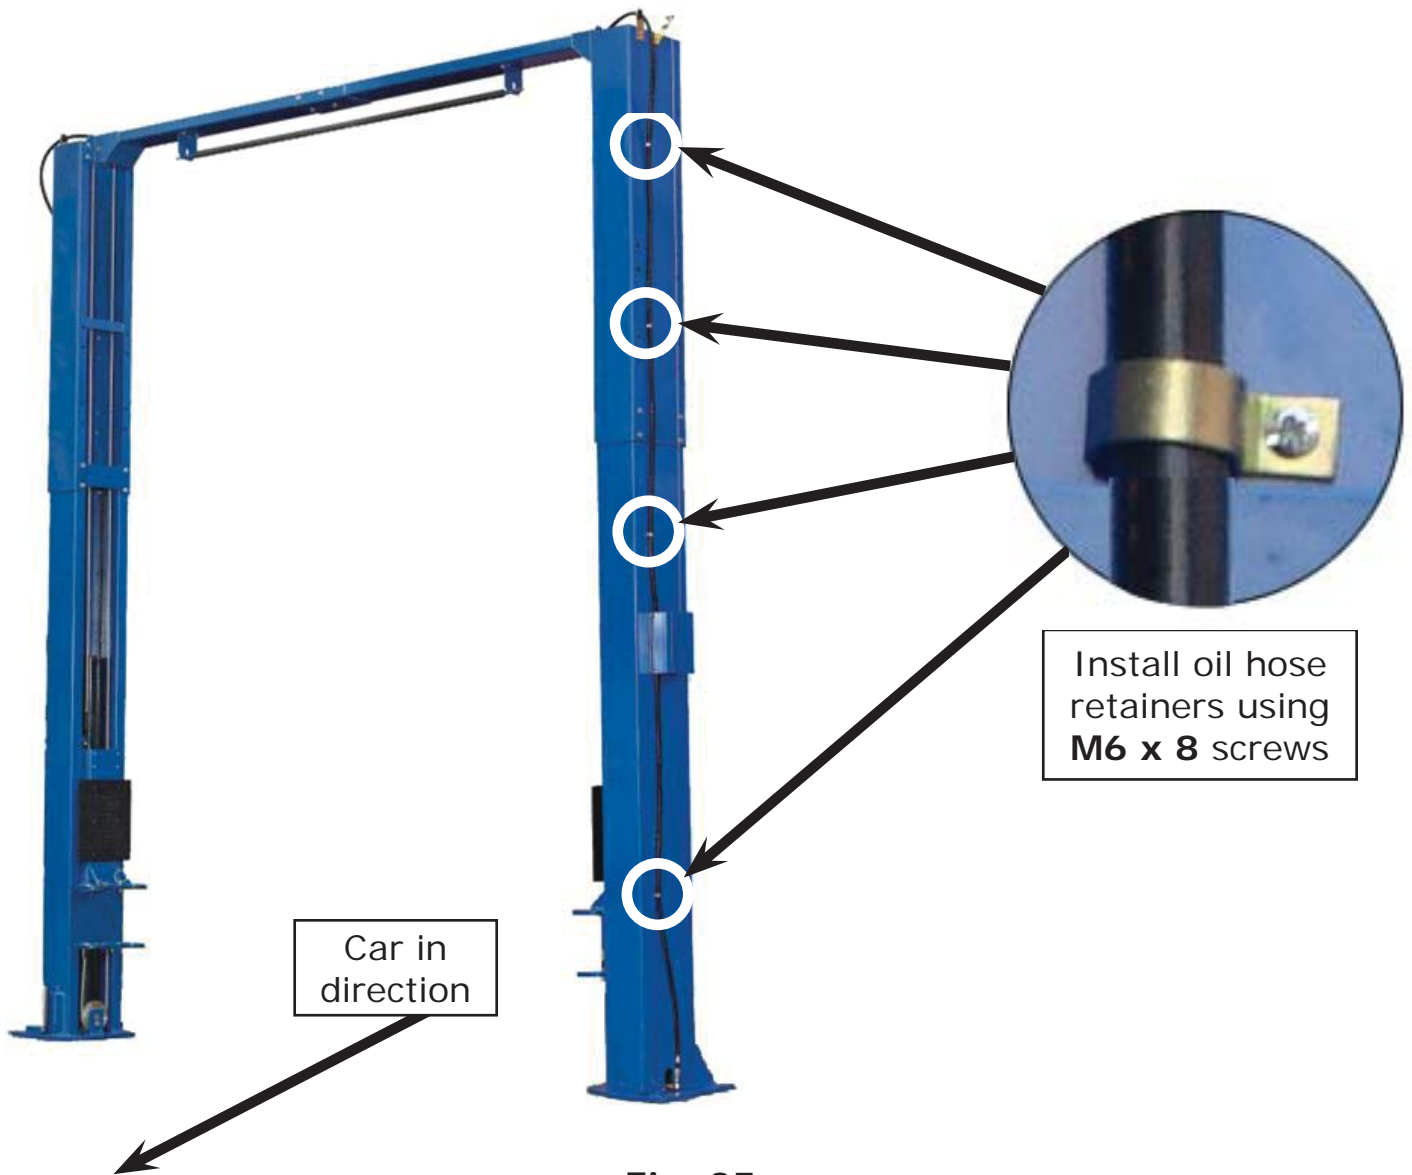

Fig. 35
P. Install hose retainers (See Fig. 35).